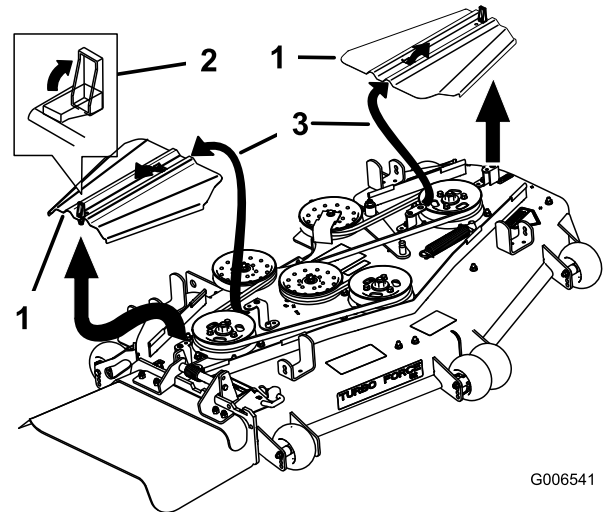

Figure 62
3. Remove the belt covers (Figure 62).